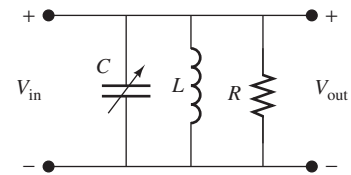

FIGURE P7.40 Circuit for Problem 7.40.
The circuit of an AM radio tuner is shown in Figure P7.40. The frequency range for AM broadcasting is 540 to 1600 kHz. Given that $L = 1$ μ H, what must be the range of C to have the resonant frequency adjustable from one end of the AM band to another?
- 7.41** (H) AM channels are spaced in 10 kHz increments, that is, 540, 550, 1590, and 1600 kHz. The bandwidth of the AM radio tuner must not exceed 10 kHz, in order to suppress the interference of neighboring channels. The circuit of the tuner is shown in Figure P7.40. Find the conditions under which the interference from neighboring AM channels is filtered out.